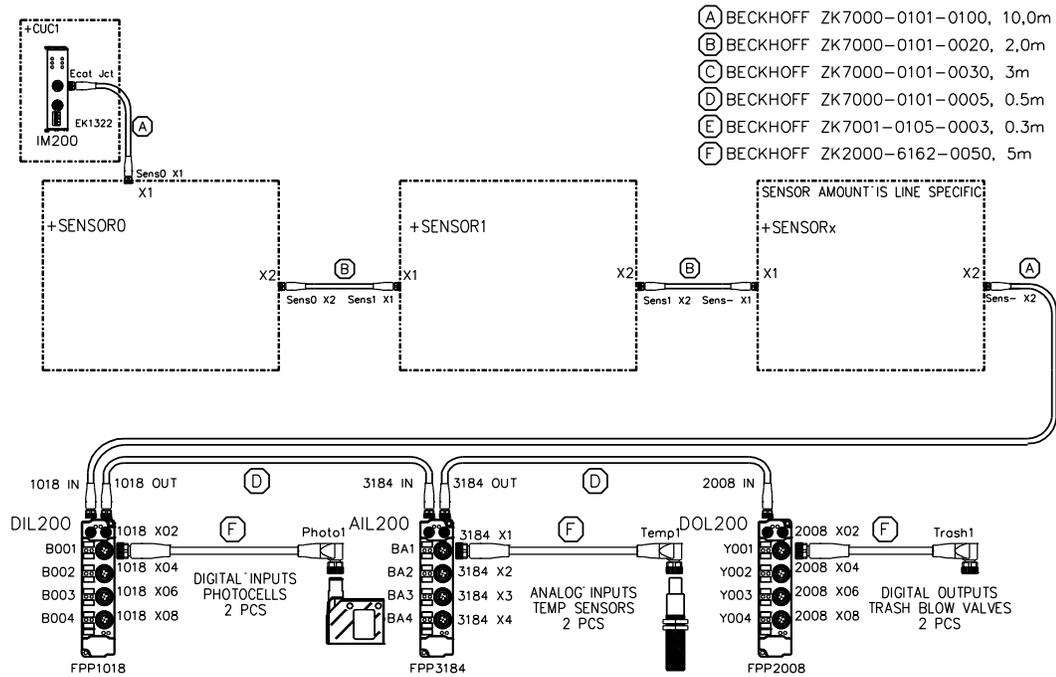

Figure 4.1. Cable Wiring Diagram
1. Make sure each sensor cable is connected as shown in Figure 4.1 \(p. 13\).
2. Make sure each sensor cable is labeled on both ends as shown in Figure 4.1 \(p. 13\).